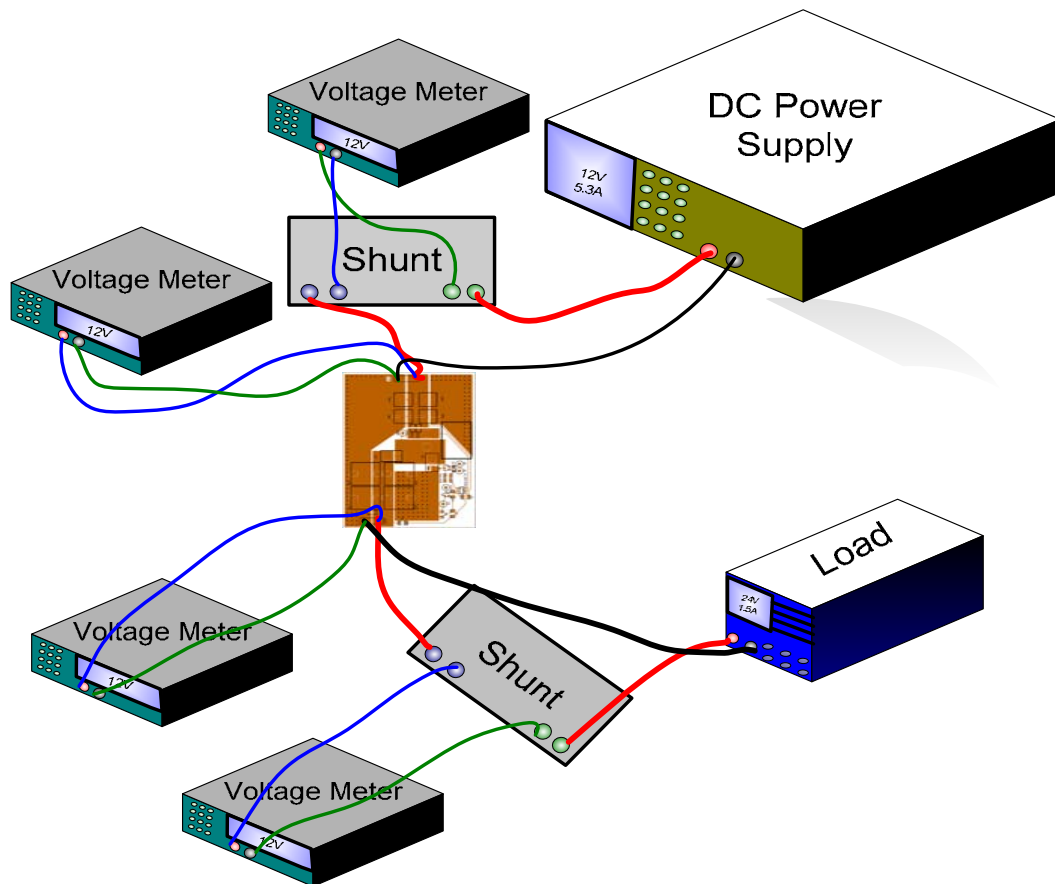

Figure 6: Test Procedure Set up
1. Ensure that the equipment listed in Table 1 is connected using the input and output clips as shown in Figure 6. (The input and output clips are configured in such a way that the user can take voltage measurements at the PCB as shown in Figure 6.)